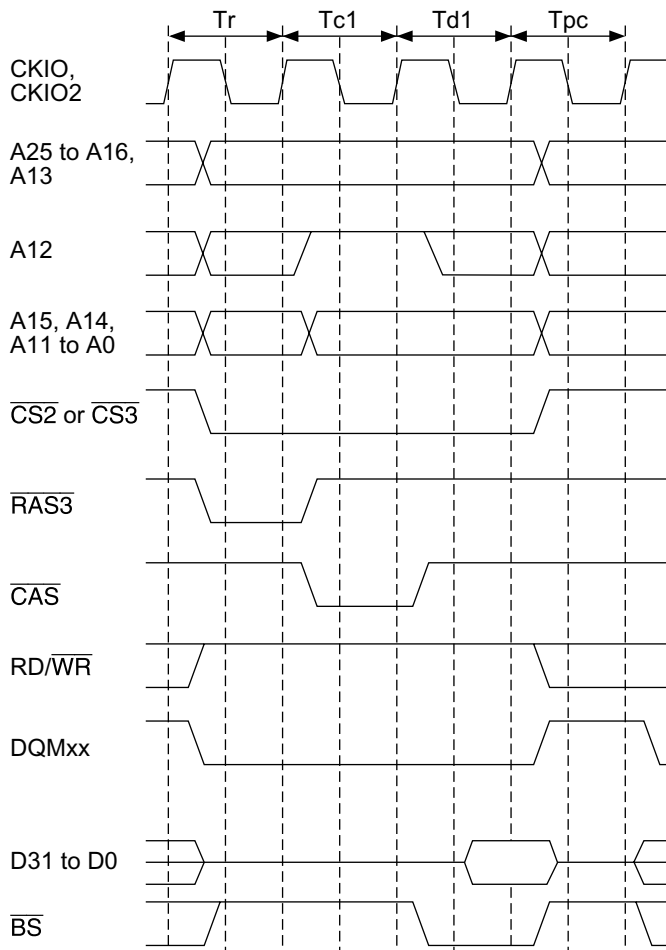

**Figure 12.15 Basic Timing for Synchronous DRAM Single Read**
**Single Read:** Figure 12.15 shows the timing when a single address read is performed. As the burst length is set to 1 in synchronous DRAM burst read/single write mode, only the required data is output. Consequently, no unnecessary bus cycles are generated even when a cache-through area is accessed.